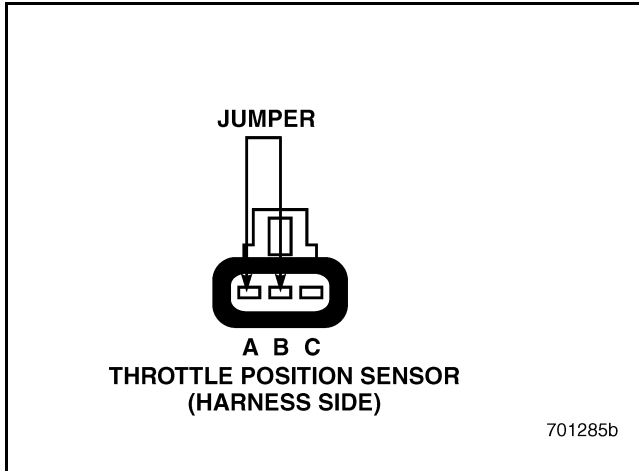

Figure 560
3. Disconnect the Throttle Position (TP) Sensor.
5. On the harness side of the TP Sensor connector, connect a jumper between the voltage reference line pin A and the signal line pin B (see Figure 560).